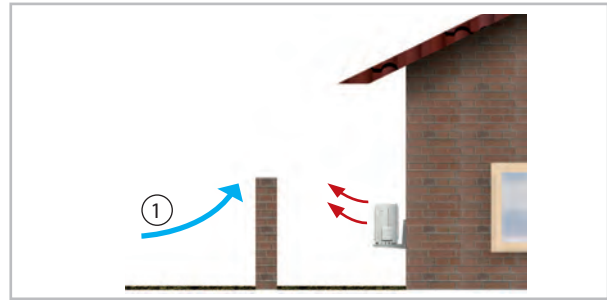
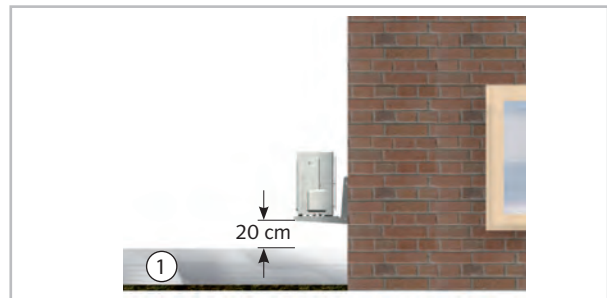

Fig. 46: Protection against wind
Fig. 47: Protection against snow
- If the outdoor unit is erected in an area of strong winds, then the unit must be protected against them and additional stabilisation is recommended. This can be realised for example with wire ropes or other constructions (Fig. 46). The snow line is to be observed during installation (Fig. 47).
- During installation, add about 20 cm to the expected snow depth to guarantee unimpeded intake and exhaust of outdoor air year round (Fig. 47).